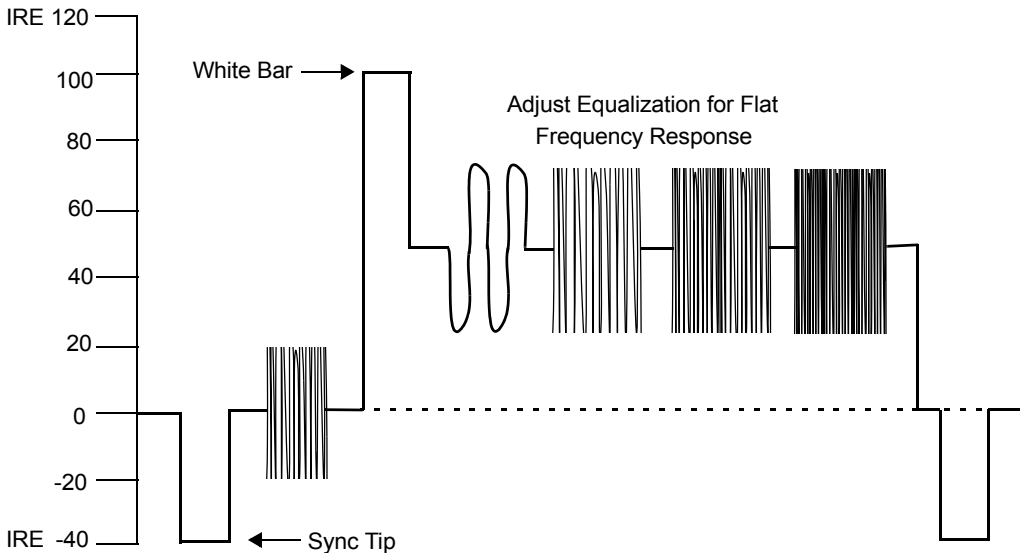

Figure 3-9. Multi-Burst Video Test Pattern
6. Connect a test pattern generator with a multi-burst test pattern to the source end of the video cable. Figure 3-9 illustrates a multi-burst video test pattern.